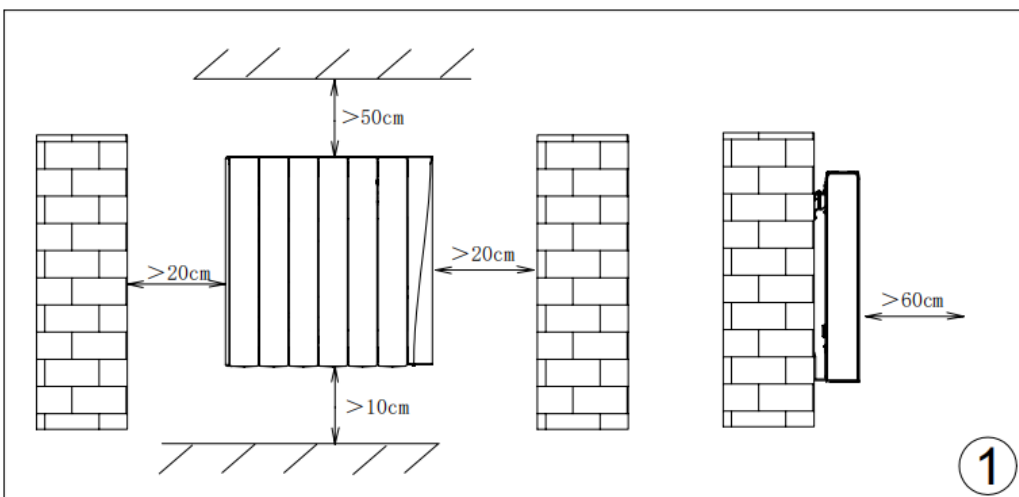

Figure 2 | Minimum distances from radiator to other objects
1. Choose the mounting position, respecting the Figure 2. Mounting closer than recommended can cause overheating of the device and damage to surrounding objects and surfaces.